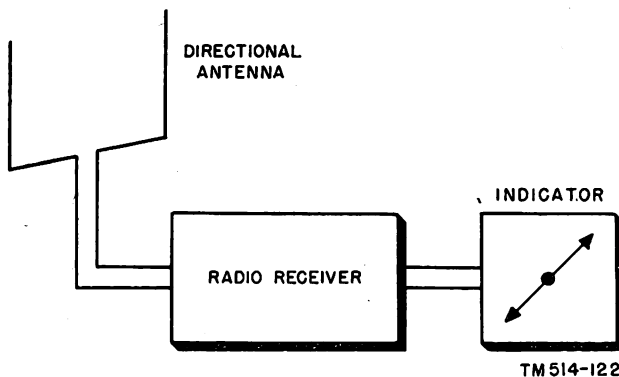

Figure 53. Elementary radio direction finder.
b. A radio direction finder consists essentially of three basic units: a directional antenna, a radio receiver, and an indicating device (fig. 53). The antenna determines the direction of arrival of the radio wave, the radio receiver detects and amplifies the signal picked up by the antenna, and the indicating device presents the results for interpretation by the human senses.